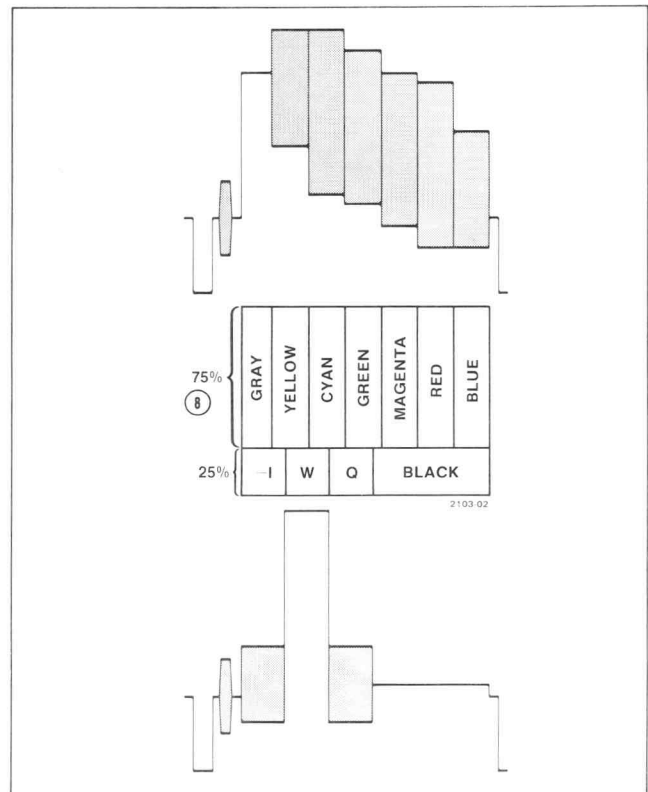

Fig. 1-3. EIA COLOR BARS.
8. to 12.: These pushbuttons are self-canceling, allowing only one COLOR BARS mode at a time (see Figs. 1-3 through 1-7).